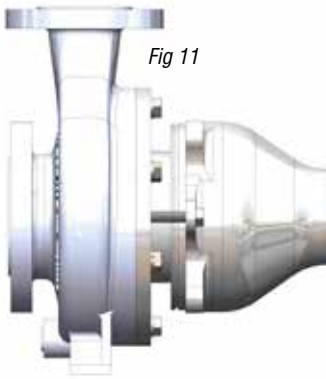

Fig 11
- Separate the magnetic coupling between the drive end and the pump end by using the two jackscrews (item 14). Using a 24 mm socket turn the jackscrews clockwise. Be sure to turn the jackscrews evenly. Turn the jackscrews until they are fully extended. See figure 11.